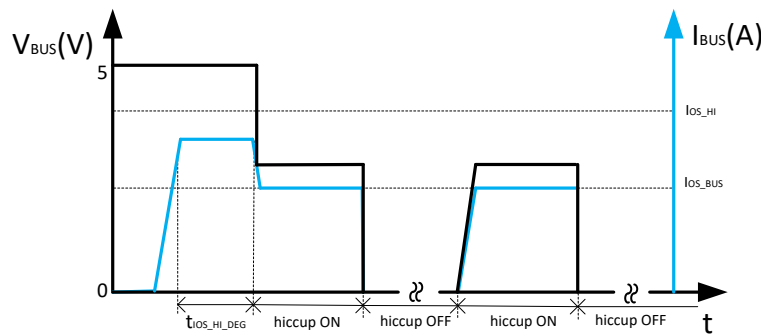

Figure 10-6. BUS Overcurrent Protection
- The second condition is the load current increases above I_{OS_BUS} but below the I_{OS_HI} setting. The device allows the USB port to output this large current for $t_{IOS_HI_DEG}$, without limiting the USB port current to I_{OS_BUS} . After the $t_{IOS_HI_DEG}$ deglitch time, the device limits the output current to I_{OS_BUS} and works in a constant current-limit mode. If the load demands a current greater than I_{OS_BUS} , the USB output voltage decreases to $I_{OS_BUS} \times R_{LOAD}$ for a resistive load, which is shown in Figure 10-6. If the overcurrent limit condition lasts longer than 4.1 ms, the corresponding USB channel enters hiccup mode with 524 ms of off-time and 4.1 ms of on-time. Another USB channel still works normally.